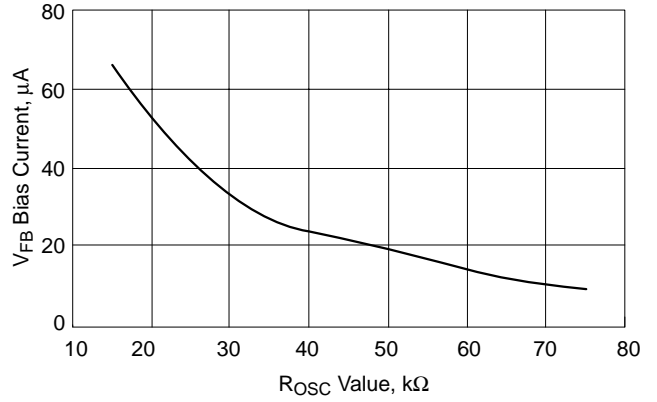

Figure 4. V_{FB} Bias Current vs. R_{OSC} Value
2. The V_{FB} Bias Current changes with the value of R_{OSC} per Figure 4.
To set the no–load positioning a resistor (R9) is placed between the output voltage and V_{FB} pin. The V_{FB} bias current will develop a voltage across the resistor to decrease the output voltage. The V_{FB} bias current is dependent on the value of ROsc. See Figure 4 on the datasheet.